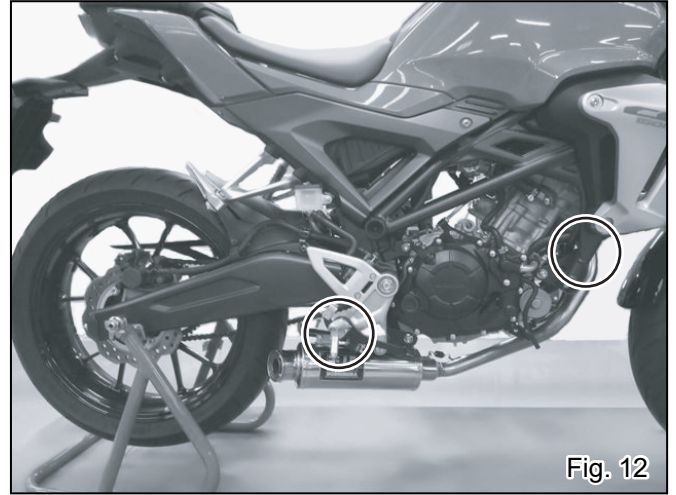

Fig. 12
- 9) Check that there are proper clearances between Yoshimura exhaust system and other components. Then, tighten and torque stock nuts on Flange, stock bolt on Silencer Bracket, Button Bolt M6x25 and Button Bolt M6x20 in order (See Fig. 12).